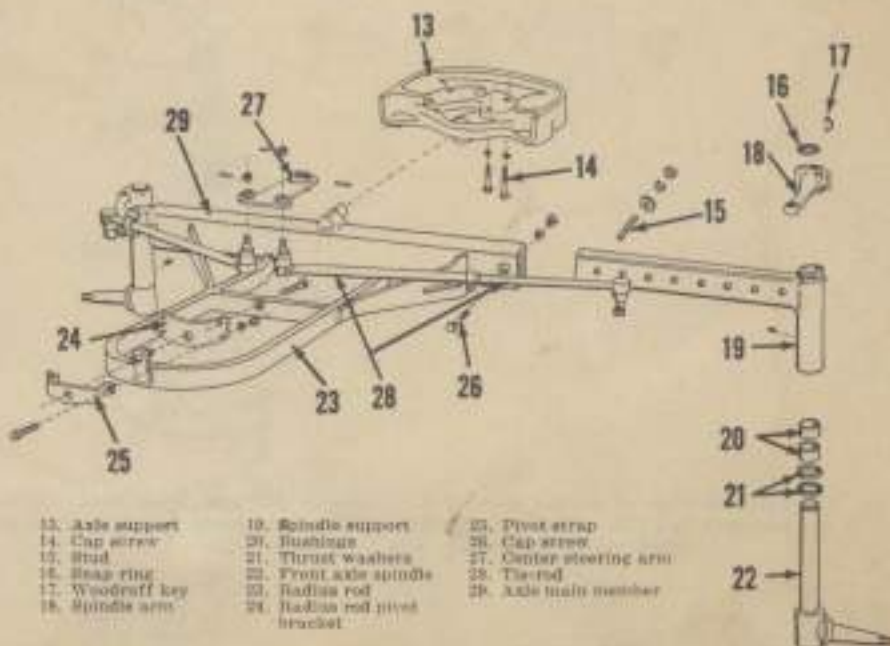

Fig. 5—Exploded view of typical adjustable axle and associated parts. Radius rod (23) is welded to axle main member (29).
8. REMOVE AND REINSTALL. Support tractor, and disconnect tie rods from center steering arm (27—Fig. 5). Detach radius rod pivot bracket (24) from torque tube and lower rear of radius rod. NOTE: Some rear pivots may be different from type shown in Fig. 5. Move front axle assembly rearward and roll axle assembly away from tractor. Axle sup-
9. The procedure for removing the spindles is evident after an examination of the unit and reference to Fig. 5. Bushings (20) should be installed flush with spindle support (19). These bushings are pre-sized and if carefully installed will need no reaming. Tie-rod length should be varied to provide a toe-in of 1/16-1/8 inch.